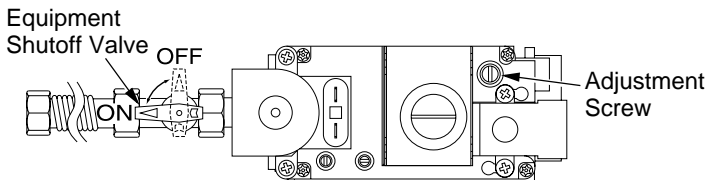

Figure 34 - Turning Equipment Shutoff Valve to the OFF Position
6. Turn equipment shutoff valve clockwise to the OFF position (see Figure 34, page 16). Do not force.
7. Wait five (5) minutes to clear out any gas. Then smell for gas, including near the floor. If you smell gas, **STOP!** Follow "B" in the safety information, above. If you don't smell gas, go to the next step.